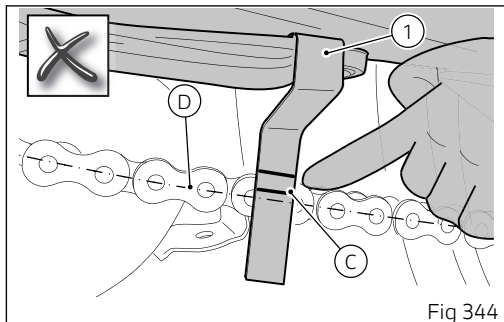

Fig 344
Check the chain tension by pushing the chain downwards with a finger, near the gauge (1). If the axis (D) of the chain pins exceeds the notch (C) of the gauge (1) at the bottom, the chain must be tensioned (see Fig 344).